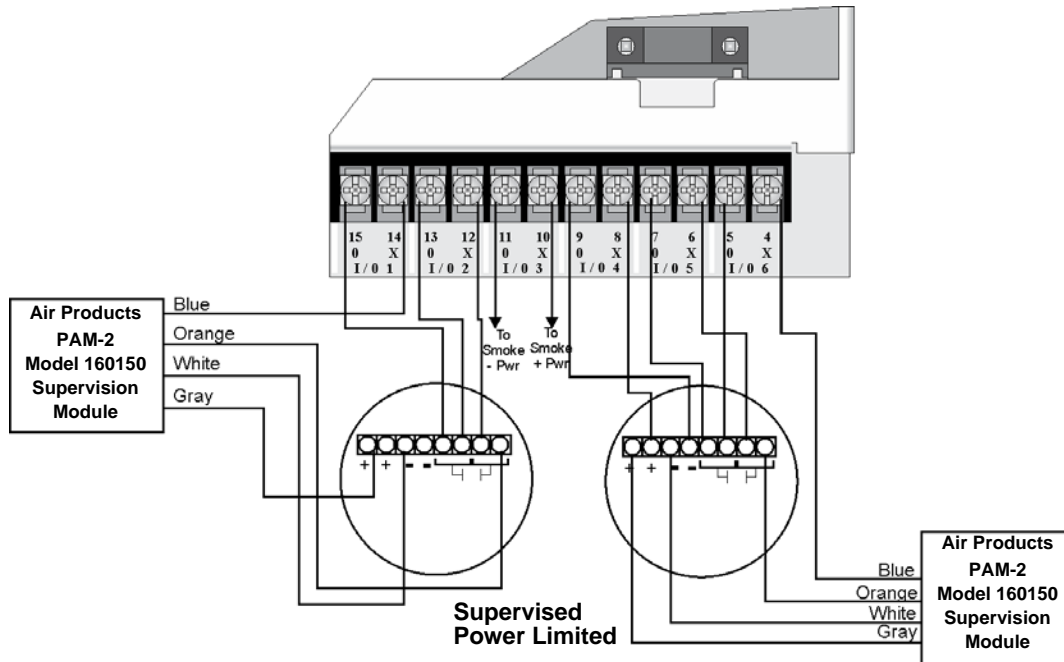

Figure 4-37 Class A 4-Wire Smoke Detector Connections
Figure 4-37 illustrates how to install 4-wire Class A detectors.
2. Smoke power is supplied to each Class A loop as shown in Figure 4-37.
Note: In programming any point that uses multiple Flexput circuits are always referred to as the lowest Flexput circuit number used. For example, Figure 4-37 uses Flexput circuits 1, 2, 3 together and 4, 5, 6 together. In programming (1, 2, 3) would be referred to as point 1, and (4, 5, 6) would be referred to as point 4.